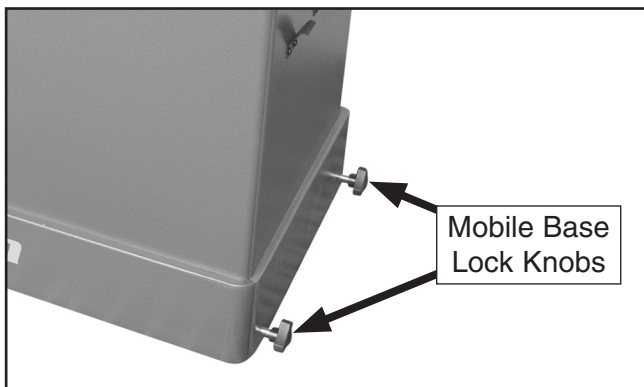

Figure 11. Mobile base lock knobs installed.
4. Install (2) mobile base lock knobs (see **Figure 11**) so jointer will not easily move.